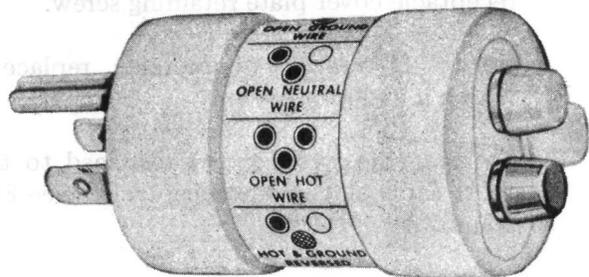

Fig. 5
3.01 The Bryant Tester (Fig. 5) plugs into only 3-wire receptacles. A combination of lights informs the user of the following ac receptacle conditions: